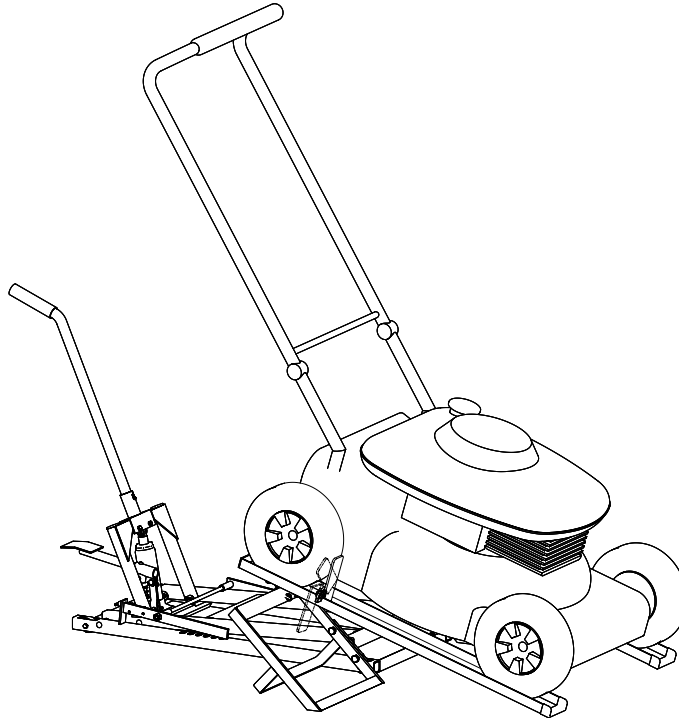

Figure 7 - Loading instructions
1. Roll the push mower onto the attachments with the handle facing the back of the Lawn Mower Lift, and rotate the Stopping Plates into the locked position (see figure 7).